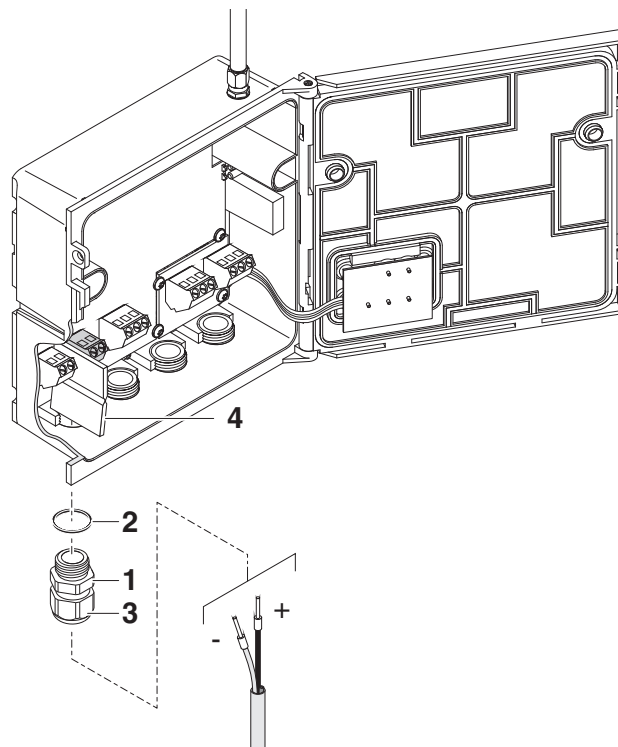

Fig. 3-15 Inserting the 24 V DC line.
- 5 | Screw a cable gland (pos. 1 in Fig. 3-15) with sealing ring (pos. 2) into the enclosure below the 24 V DC connection.
- 6 | Loosen the coupling ring (pos. 3).
- 7 | Feed the 24 V DC line through the cable gland into the enclosure. When doing so bend the flexible divider (pos. 4) to the left.